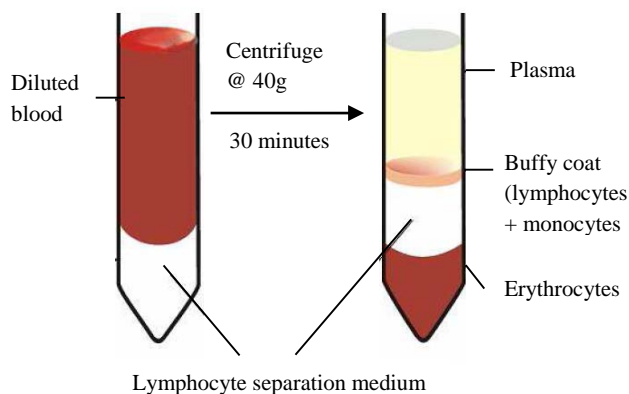

Fig 1: Separation of blood cells by density gradient centrifugation
4. As shown in Fig. 1, after separation the uppermost layer consists of blood plasma. Buffy coat containing lymphocytes and monocytes lies below the plasma. A layer of lymphocyte separation medium lies below the buffy coat. Erythrocytes get sedimented at the bottom.